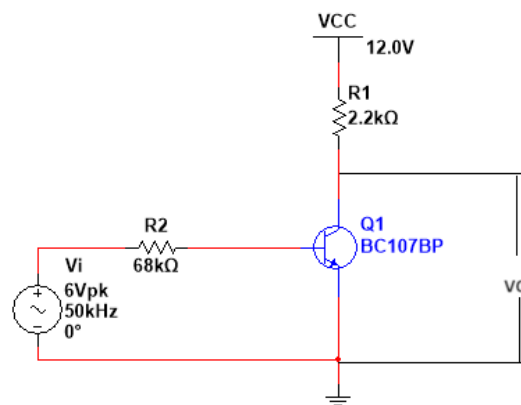

Figure 6.1: Transistor as a Switch
6.1 Design the transistor as a switch as shown in figure 6.1 using digilent discovery kit. Draw the input and output wave form for give sinusoidal input